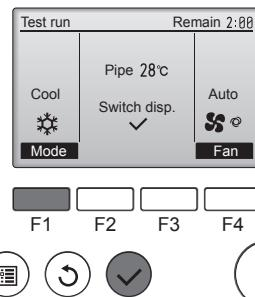

Fig. 8-3
- Press the [F1] button to change the operation mode. (Fig. 8-3)